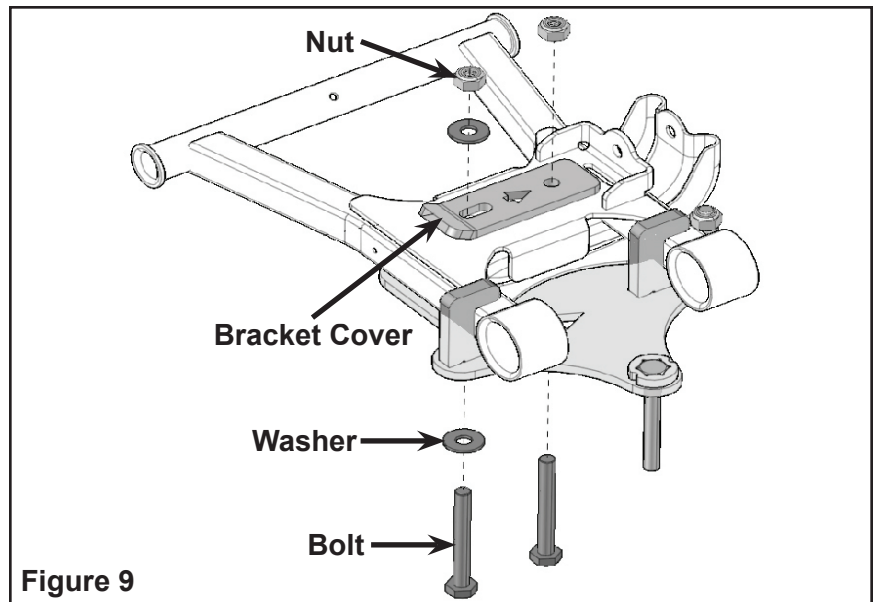
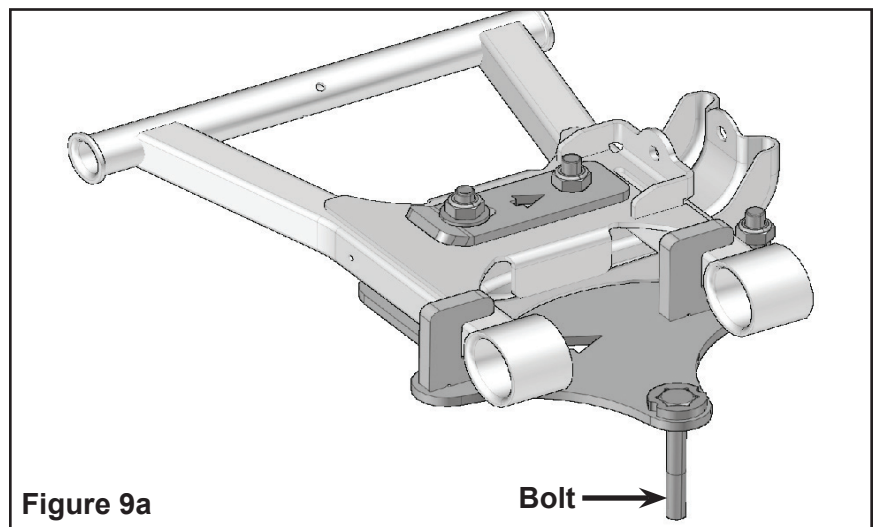

Figure 9
Figure 9a
6. Position the bracket cover over lower suspension arm. Insert appropriate bolts (M10x55 mm or M10x80 mm) through bottom washers must be placed under head of bolt and nut installed in oblong holes of bracket plate and cover. Use nuts to tighten assembly to 37 ft. lbs. (50 Nm) of torque. Figure 9 and Figure 9a.